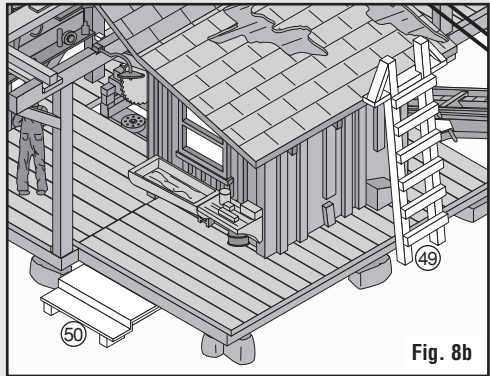

Fig. 8b
- Glue Ladder (49) to back of Small Roof and Stairs (50) to end of Base (Fig. 8b).